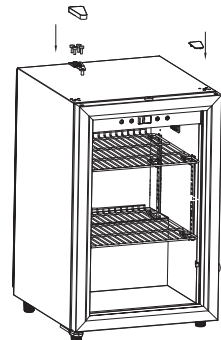

Figure 6
5. Gently lift the appliance to an upright position. (Fig. 6)
6. Reinstall the door with the upper hinges and cover plate on the opposite side. Ensure the door closes and seals firmly. (Fig. 6)